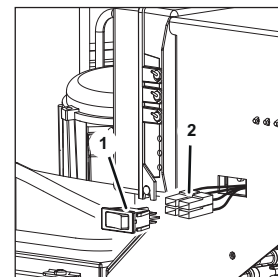

Fig. 32
1. Disconnect the electrical cables (Fig. 32/2) from the switch (Fig. 32/1).
2. Press the retaining clips of the switch (Fig. 32/1) together from the inside.
3. Take the switch (Fig. 32/1) out of the unit.
4. Insert the switch (Fig. 32/1) in the unit. The switch must audibly click into place.
5. Connect the electrical cables (Fig. 32/2) to the new switch (Fig. 32/1).